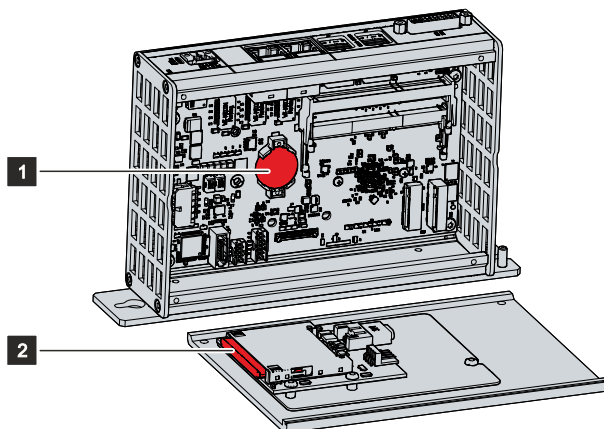

Fig. 16: C6905\_Battery and CFast
You now have access to the battery (1) and CFast (2) (see fig. 16).